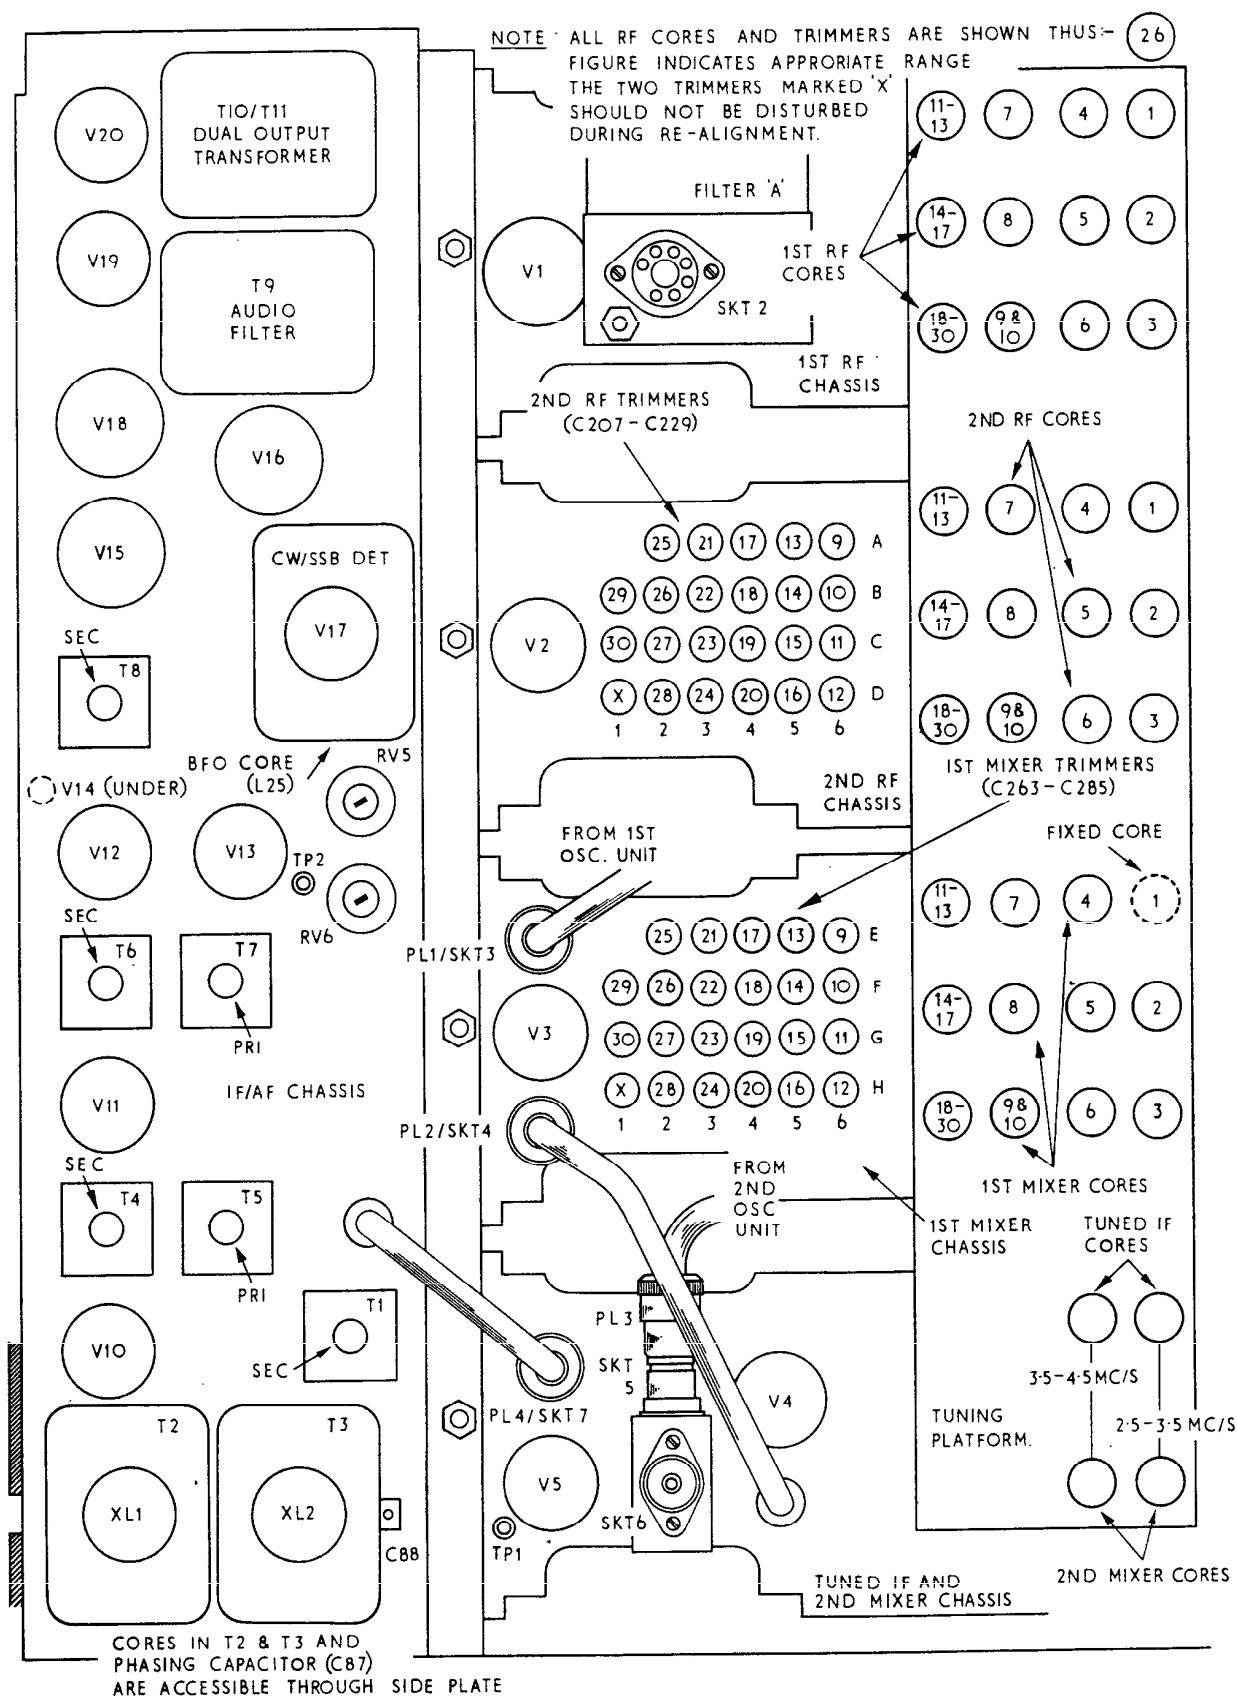

Fig. 7. Part top view showing location of major components and all RF/IF Trimming Adjustments.
This is a sub-miniature wired-in type and is located on the underside of the IF/AF chassis (see Fig. 7).
2. The cover can now be lifted clear and V14 located by reference to Fig. 7.
The two dual crystals (XL1 and XL2) used in the bandpass filters are standard envelope types on B7G type bases. When replacements are fitted it is most important to replace the screening cans and to ensure that the crystal unit with the closest crystal spacing is inserted in the left-hand socket (receiver viewed from front — see Fig. 7).
The complete 2nd IF Section (including the 2nd Mixer, V5) can be checked by introducing a modulated 500 kc/s signal at TP1 (adjacent to V5 — see Fig. 7). The sensitivity should be of the order 1uV for an output of 50mW at the 2.5 ohm terminals (Bass switch and IF/AF Gains at maximum, AGC and NL off).
2. All cores are provided with hexagonal bores which run completely through their centres. This allows adjustment of the lower core from the top side of the chassis when the special Neosid trimming tool (Type H.S.1.) is used. This tool has a shank of reduced diameter which makes it possible to pass one end of the tool right through the top core for adjustment of the lower core. Reference can be made to Fig. 7 for identification of primary and secondary windings. The lower core in each case is, of course, opposite to the one indicated. All cores are self-locking with rubber string and locking compound.
The phasing capacitor (C87) which is used in the 'CRYSTAL 1' position is reached through the upper alignment hole. C88, the 'CRYSTAL 2' phasing capacitor, has a small spindle sleeve which protrudes through the right-hand side of the screening can (see Fig. 7). The sleeve is provided with holes so that the capacitor can be adjusted with a small tommy bar.
Connect the sweep generator output lead to the Test Point (TP1) which is located close to the 2nd Mixer Stage, V5. It will be necessary to remove the RF cover to make connection to TP1, the location of which is shown in Fig. 7. Reference to the Main Circuit Diagram will show that the generator output is applied direct to the grid of V5 and it is suggested that this stage is operated as a straight amplifier by taking out PL3 to isolate the injection from the 2nd Local Oscillator Unit. Operation of the stage in this manner will prevent spurious beats due to any harmonic content in the generator output mixing with the oscillator and appearing on the display trace.
A further Test Point (TP2) is provided for ease of connection from the diode load (R75) to the Oscilloscope 'Y' plate amplifier. TP2 is located close to V13 (see Fig. 7) and a screened lead should be used to make connection to it.